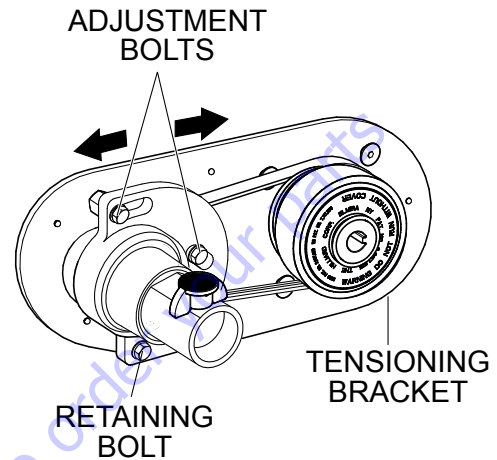

Figure 29. V-Belt Adjustment
2. The V-belt can be adjusted by loosening the bolts on the tensioning bracket (Figure 29).